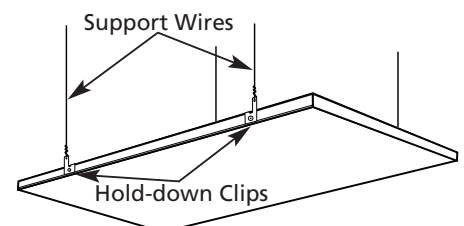

Figure 2
⚠ CAUTION *To prevent possible injury from falling panels, the T-Bar must be securely fastened to the building structure and capable of supporting the weight of the panel (30 pounds). Extra holes are provided for suspending the heater panel (see Figure 2) on steel wires no smaller than No. 18 ga. (0.047 in. diameter / 0.119 cm diameter). These extra support wires must be used where T-Bar strength is inadequate or where vibration is anticipated.*
2. Three (3) inch (7.62 cm) minimum distance must be provided between the front painted surface and the ceiling above. However, installation may be difficult and six (6) inches (15.2 cm) or more clearance will improve installation of heaters and inspection of wiring. It may be necessary to remove a cross tee for installation when T-Bars are at close distances to the ceiling.
4. The heater panels are supplied with four built-in hanging/hold-down clips which are located on each long side of the heater panel. The clips can be used either to hang the heater with support wires (see Figure 2) or bent as hold-down clips to the T-Bar frame (see Figure 3). Carefully lift heater panel into place, making sure hold-down clips hook securely over T-Bar (see Figure 3).